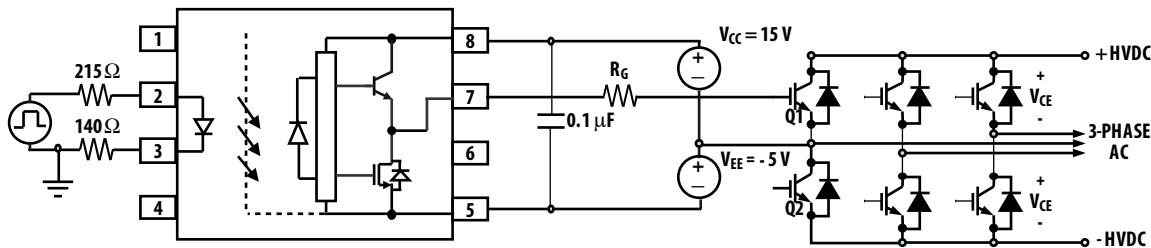

Figure 24. ACNT-H313 typical application circuit
**Step 1: Calculate  $R_g$  minimum from the  $I_{OL}$  peak specification.** The IGBT and  $R_g$  in Figure 24 can be analyzed as a simple RC circuit with a voltage supplied by the ACNT-H313.
For the circuit in Figure 24 with  $I_F$  (worst case) = 12 mA,  $R_g$  = 8  $\Omega$ , Max Duty Cycle = 80%,  $Q_g$  = 500 nC,  $f$  = 20 kHz and  $T_A$  max = 85  $^{\circ}\text{C}$ :